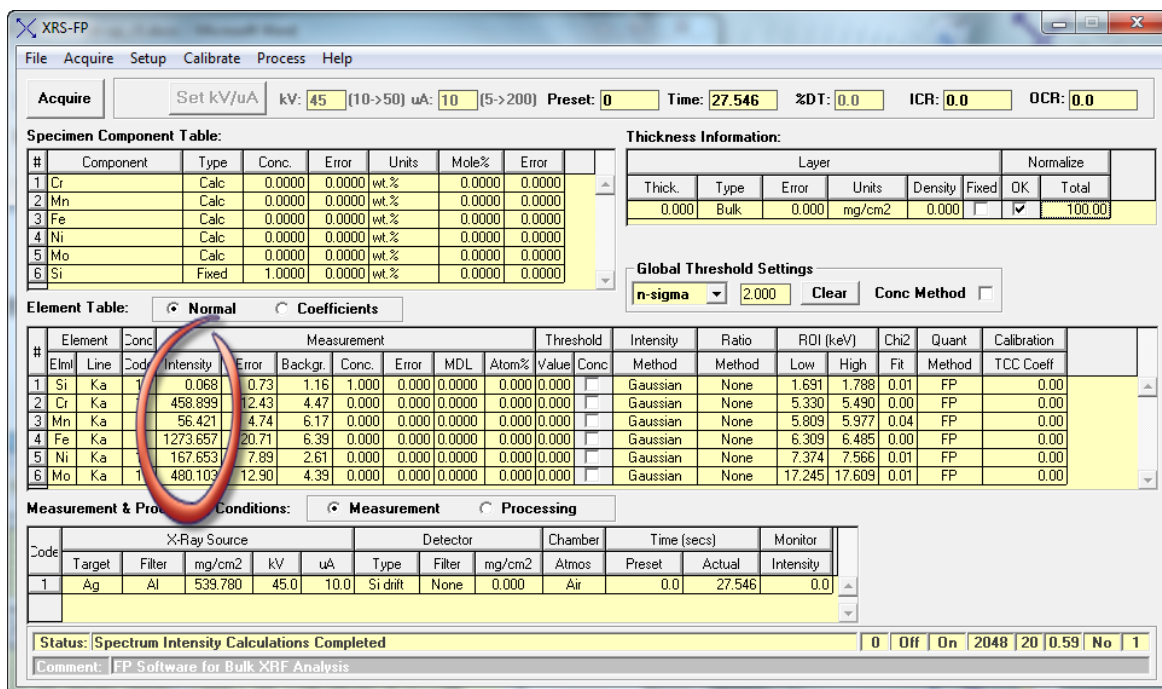

Figure 17. XRS- FP Expert Panel. Note that intensities are now displayed for each element in the “Element Table.”
13. To extract intensities from the stainless steel 316 spectrum, select **Process -> Spectrum -> All**, from the XRS-FP Expert Panel. Notice that there are now intensities displayed for each element in the “Element Table” (see Fig. 17 below).